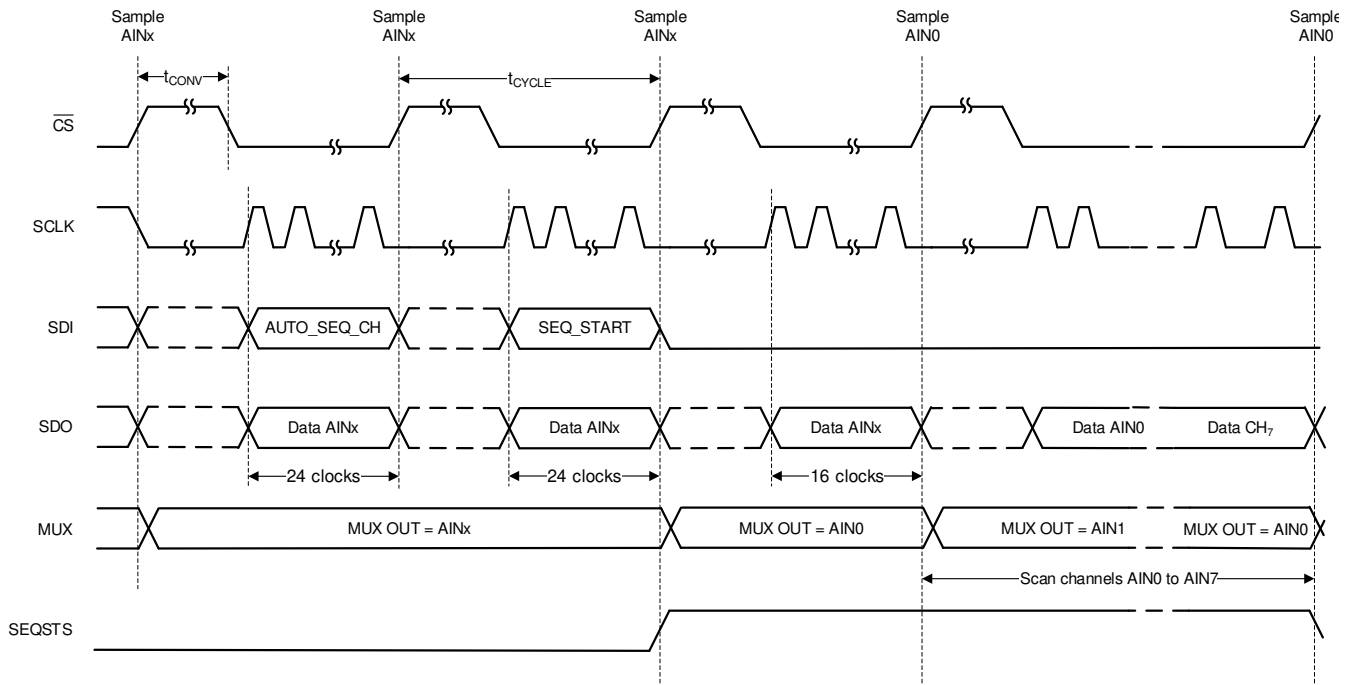
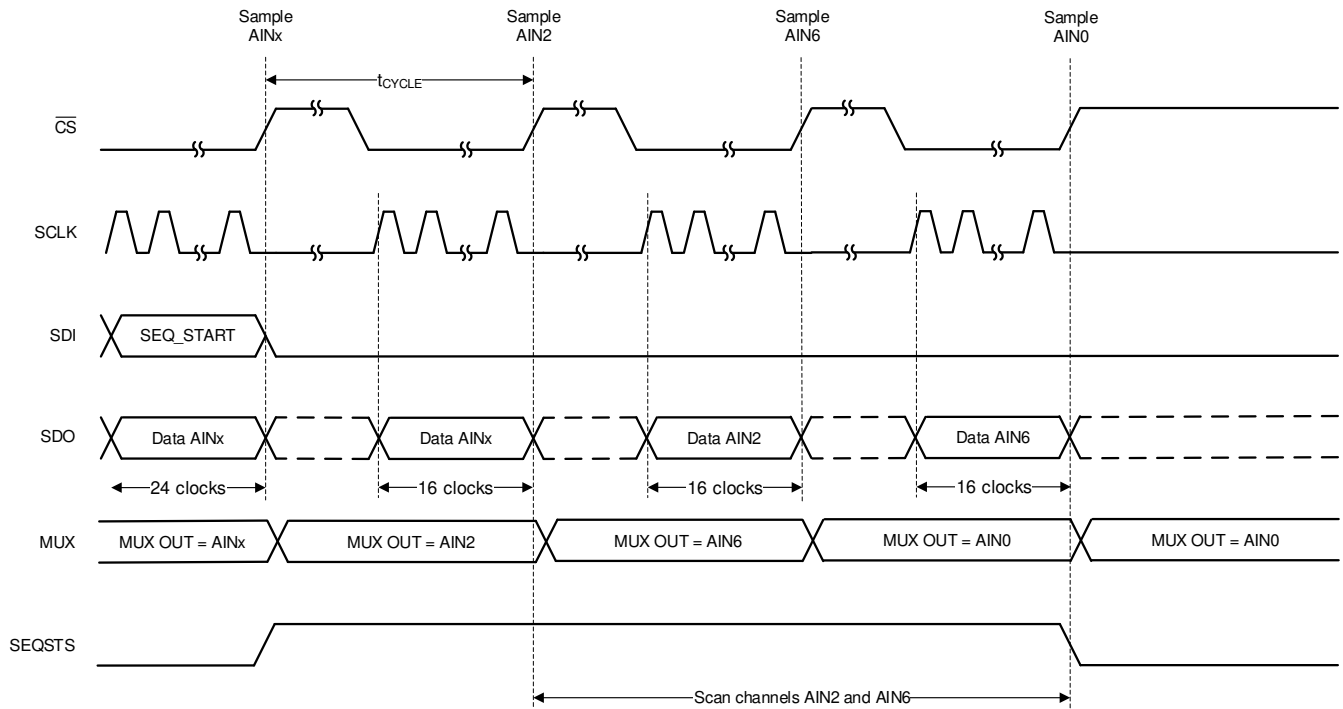

Figure 6-14. Starting a Sequence in Auto Sequence Mode
Figure 6-15. Example: Scanning Channels 2 and 6 in Auto Sequence Mode
In auto sequence mode, the internal channel sequencer selectively scans channels from AIN0 through AIN7 in ascending order. To select auto sequence mode, configure SEQ_MODE to 10b in the DEVICE_CFG register using a 3-byte register access. Enable one or more channels among AIN[7:0] by configuring the AUTO_SEQ_CFG1 register. By default all analog input channels are enabled. After enabling the desired channels, start the sequence by setting SEQ_START to 1b. The ADC auto-increments through the enabled channels after every $\overline{CS}$ rising edge. Configure SEQSTS_CFG bit to 1b in SDO_CNTL4 register to indicate sequence status on SDO-1/SEQSTS pin. When SEQ_START is set to 1b, the SDO-1/SEQSTS pin is at logic 1 as shown in Figure 6-14 until the last channel conversion frame is complete. After the last enabled channel conversion is complete, channel AIN0 is selected and SDO-1/SEQSTS is in a high-impedance state.
As an example, Figure 6-15 depicts a timing diagram for when the device is scanning AIN2 and AIN6 in auto sequence mode. When AIN6 is converted, SDO-1/SEQSTS is Hi-Z and AIN0 is selected as the active channel. At the end of sequence, if more conversion frames are launched the device returns valid data corresponding to AIN0.
- Configure the AUTO_SEQ_CFG1 register. In Figure 6-15, AUTO_SEQ_CFG1 = 0x44.
- Configure the AUTO_SEQ_CFG1 register. In 図 6-15, AUTO_SEQ_CFG1 = 0x44.
After configuring the channel scanning order, start index, and stop index, initiate the scanning by setting the SEQ_START bit to 1b. The ADC scans through the enabled channels after every $\overline{CS}$ rising edge as defined by the channel scanning order. When SEQ_START is set to 1b, the SDO-1/SEQSTS pin is pulled high until the last channel conversion frame is complete, as described in 図 6-14. As illustrated in 図 6-15, channel AIN0 is selected and SEQSTS/SDO-1 goes to Hi-Z after the last enabled channel conversion is complete.
As an example, 図 6-15 provides a timing diagram for when the channel configuration is set as in 表 6-5. When AIN6 is converted, SEQSTS/SDO-1 goes to Hi-Z and AIN0 is selected as the active channel. If more conversion frames are launched at the end of the sequence, the device returns valid data corresponding to AIN0.
- Configure the CCS_START_INDEX and the CCS_END_INDEX registers. In 図 6-15, CCS_START_INDEX = 0 and CCS_STOP_INDEX = 1.
- Configure the CCS_SEQ_LOOP register to 1 to indefinitely loop the sequence. In 図 6-15, the CCS_SEQ_LOOP register = 0b.